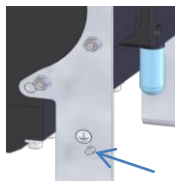

Fig. 5 Earth connection
3. Connect the pump to a protective earth system. Use the earth connection shown in Fig. 5 for this purpose.